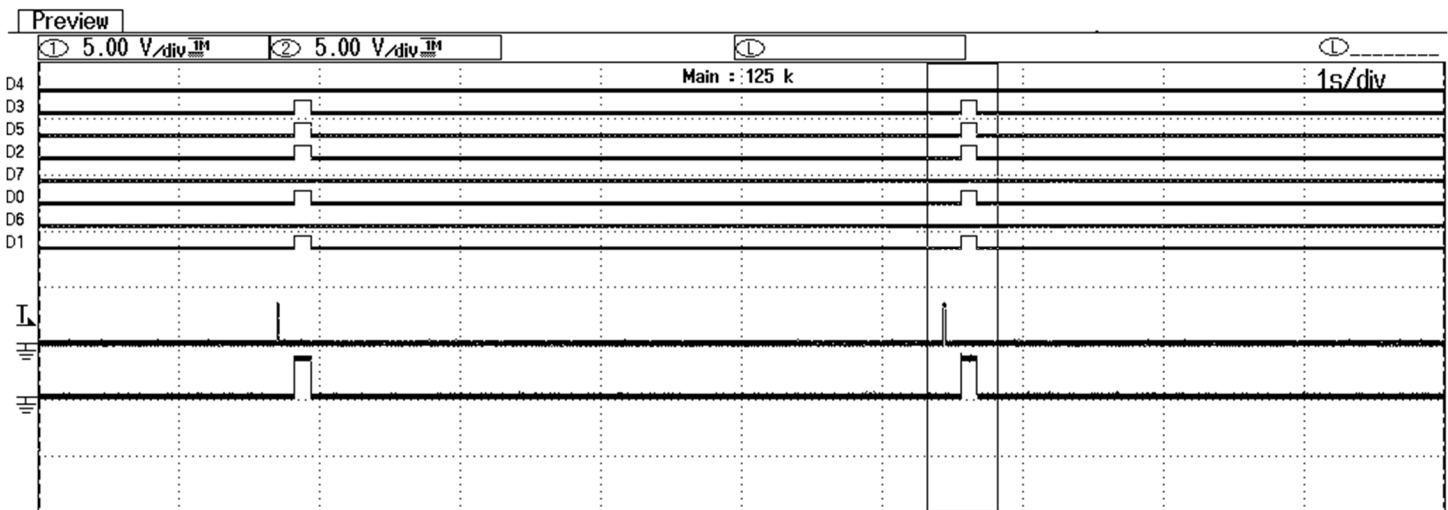

Fig. 5: Typical data output (D0..D7) and ADC timing signals EXT CONVST (ADC start) and TE (Transmit Enable for Linx module)
Fig. 5 shows the typical timing at a sample rate of 5s. The sensor input voltage is here 0.56V, which results in D0..D7=0010.1111. This results, with a V-ref of 3V in $47/256 * 3V = 0.55V$. The AD conversion is started with a small $\sim 20ms$ pulse (signal 9). After roughly 100ms the data from the ADC is available (signal D0..7) and a 100ms Transmit Enable (TE) pulse is generated for the Linx board.